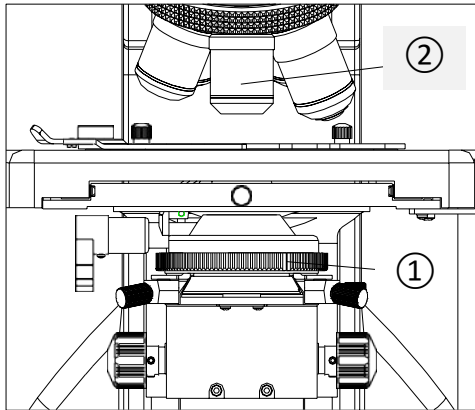

Fig. 21
Adjusting the Aperture Diaphragm – (Fig. 21 & 22)
The aperture size is increased or decreased by rotating the condenser aperture diaphragm ring ① (Fig. 21). When the aperture is closed, the brightness and resolution are decreased but the contrast and range of focus are increased. If the aperture diaphragm is opened, the brightness and resolution are increased; however, the contrast and range of focus are diminished. For optimal viewing conditions set the condenser aperture diaphragm lever to match the magnification of the objective ② in the optical path.